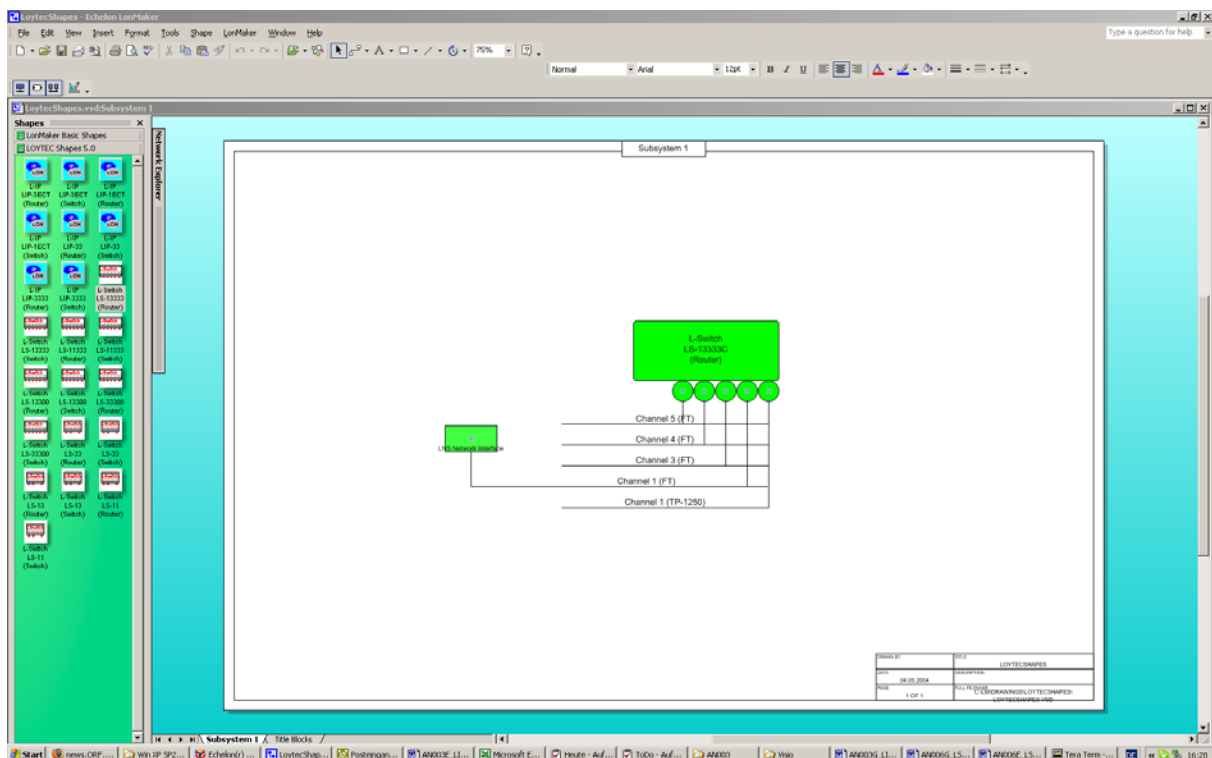

Figure 8: The L-Switch is now commissioned and ready to use
10. After commissioning all ports all circles at the bottom of the L-Switch shape appear solid green in the drawing (see Figure 8). The L-Switch is now commissioned and ready to forward packets.